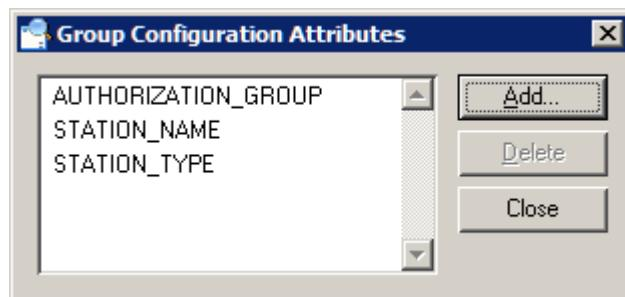

Figure 84: Group Configuration Attributes dialog
1. Select **Standard Function Configuration/Define Group Attributes....** The Group Configuration Attributes dialog, shown in Figure 84 appears.